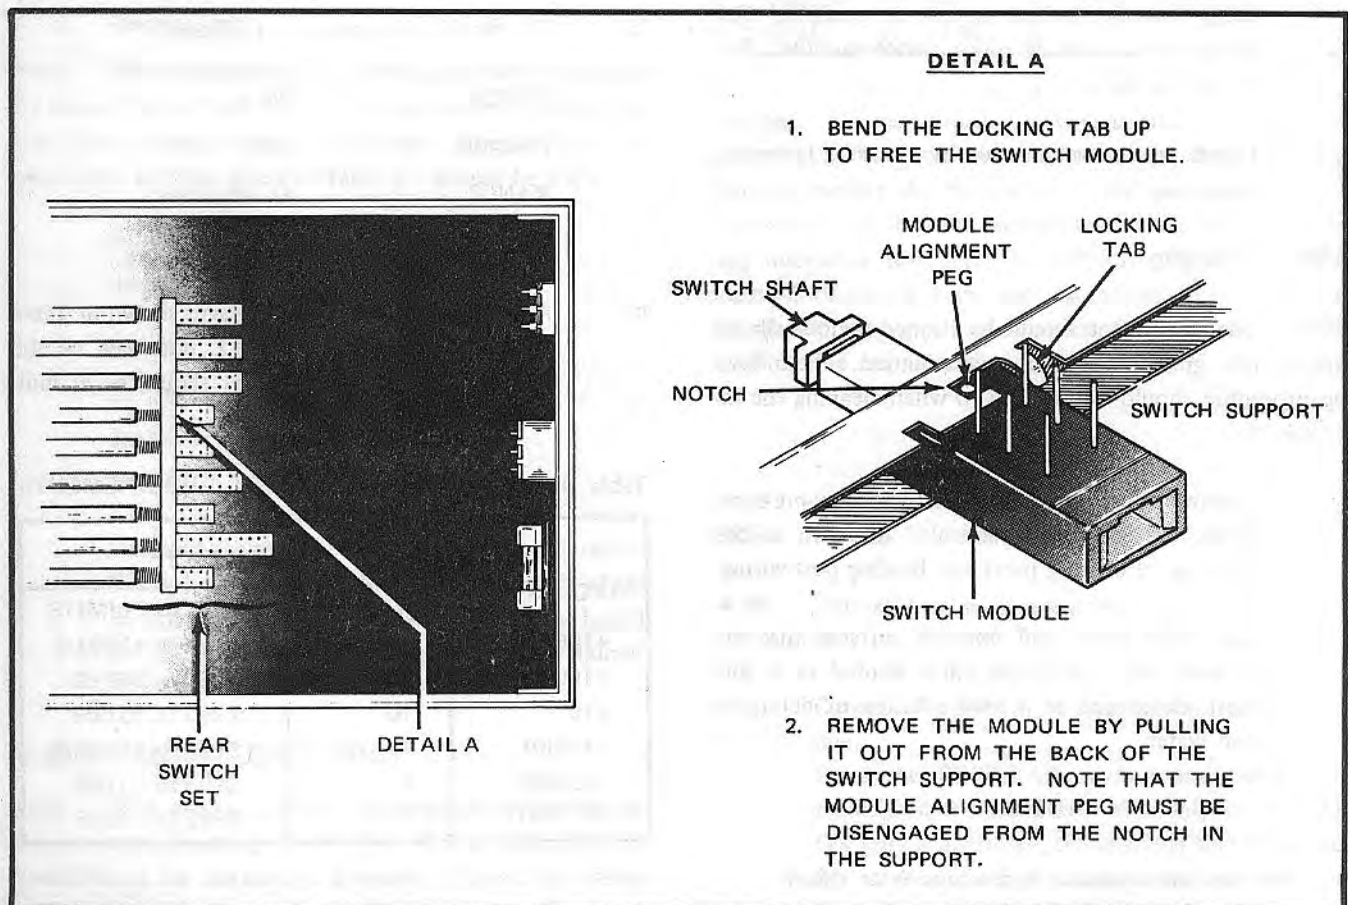

Figure 4-4. MODULE REPLACEMENT – REAR SWITCH SET
4-23. SWITCH MODULE REPLACEMENT – REAR SWITCHES (Figure 4-4).
- d. Bend up the locking tab (on switch support) which holds the defective switch module in position. Remove and discard defective switch module. See Detail A, Figure 4-4.